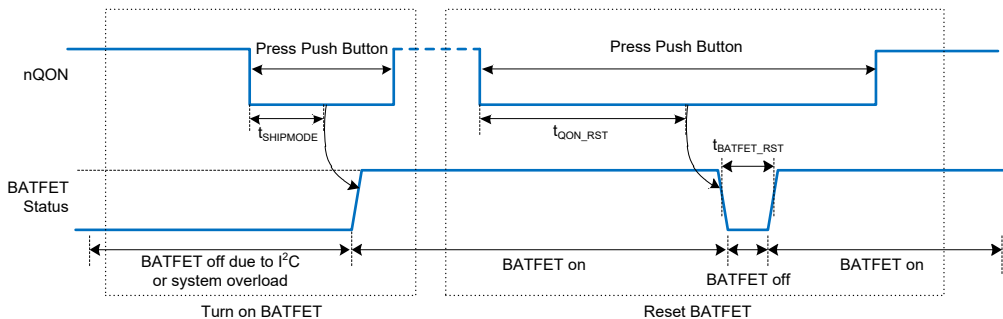

Figure 10. nQON Enable and Reset BATFET Timing
1. Enable BATFET: Applying an nQON logic high to low transition with longer than $t_{SHIPMODE}$ deglitch time (negative pulse) turns on BATFET to exit ship mode (Figure 10 left). HIZ is also enabled (EN_HIZ = 1) when exiting shipping mode. After exiting shipping mode, the host can disable HIZ (EN_HIZ = 0). OTG cannot be enabled (OTG_CONFIG = 1) until HIZ is disabled.
2. Reset BATFET: By applying a logic low for a duration of at least t_{QON_RST} to nQON pin while VBUS is not powered and BATFET is allowed to turn on (BATFET_DIS bit = 0), the BATFET turns off for t_{BATFET_RST} and then it is re-enabled resulting in a system power-on reset (Figure 10 right). This function can be disabled by clearing BATFET_RST_EN bit.